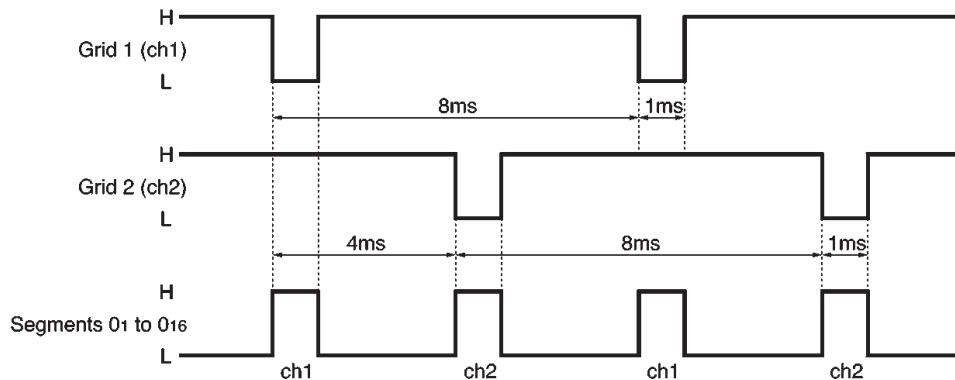

Fig. 5
(5) Grid and segment output timing chart. The grid and segment output timing for an oscillator frequency of 2kHz is shown in Fig. 5.